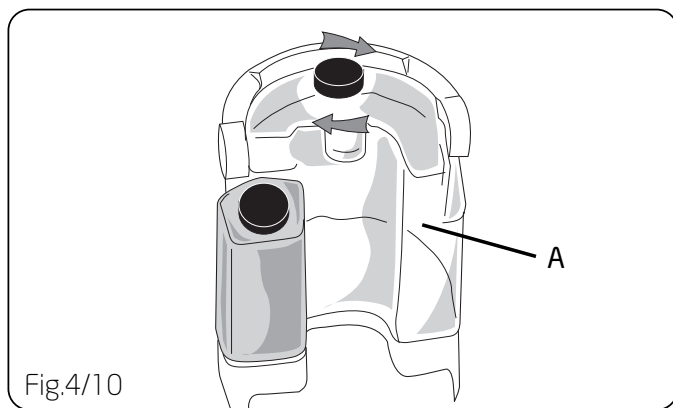

Fig.4/10
Fill tank (A) with warm tap water (Fig.4/10).